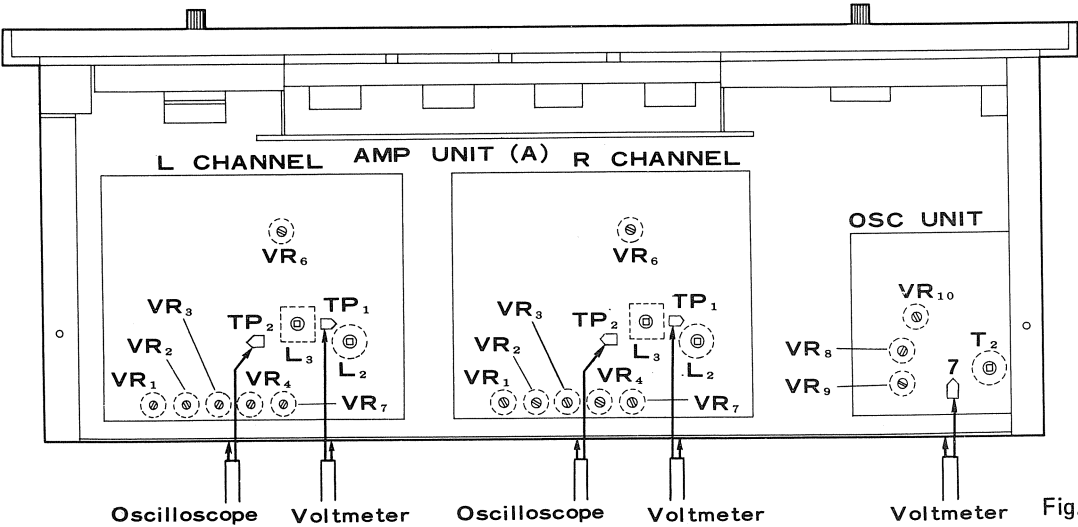

Fig. 5
- 1. Connect measuring instruments as shown in Fig. 5.
- 3. Amplitude at TP1 (Fig. 5) should be 3 V or less. Adjust by L3 on left and right channels.